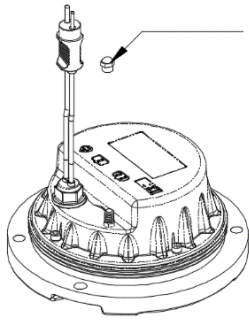

Figure 5-32
- Unscrew the valve cap at the lighting fixture bottom (see Figure 5-32).